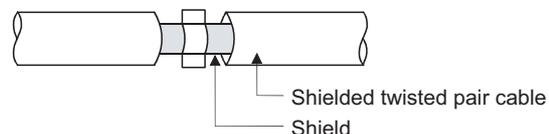

**Figure 9.5 AUI cable grounding**
- Be sure to ground the AUI cables\*1 connected to the 10BASE5 connectors. Since the AUI cable is of the shielded type, ground the exposed shield section of the cable, where the cable jacket was partly removed as shown in Figure 9.5, on the widest contact surface.